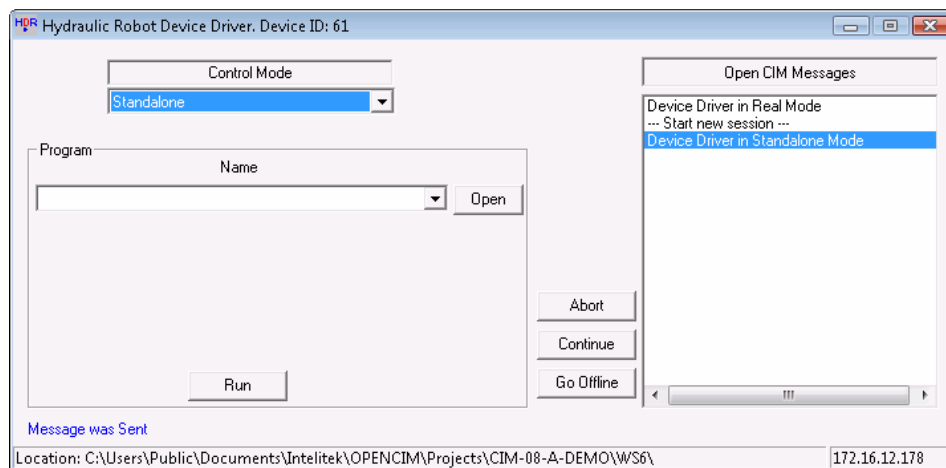

Figure 9-35: Hydraulic Robot Device Driver (Standalone)
- From the Control Mode drop down list, select **Standalone**. The window is expanded as shown in Figure 9-35: Hydraulic Robot Device Driver (Standalone).